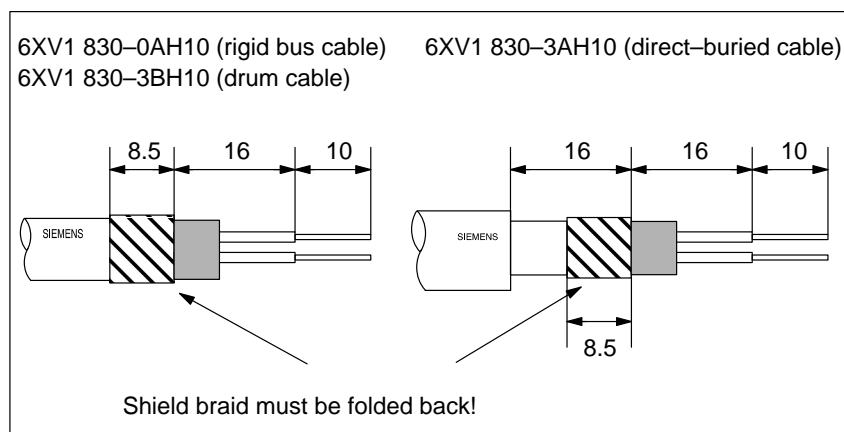

Figure 4-10 Stripping lengths for connection to the PROFIBUS Terminator
2. Strip the insulation from the PROFIBUS bus cable as in Figure 4-10.